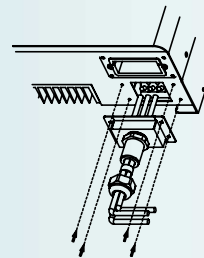

Fig. 11
- Connect the cables as follows (Fig. 11):